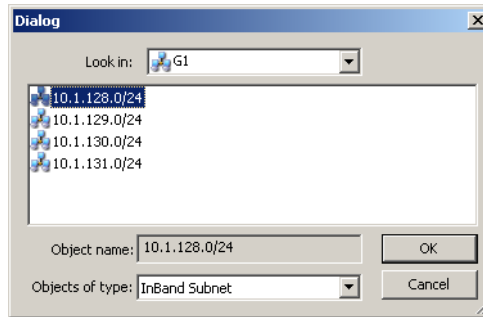

Figure 5-32 Add Site Dialog, Select Subnet
6. Double-click on the appropriate network element to navigate the network tree until the desired subnet address appears, as shown in figure 5-32. Select the subnet and click OK to add this site to the list.